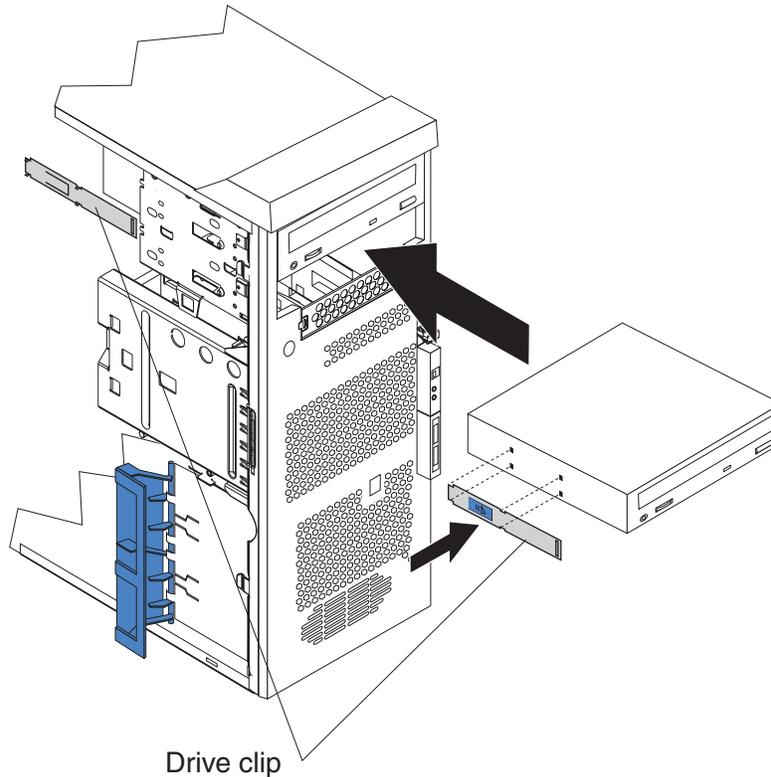

Figure 17. Drive clips on removable-media drives
13. Remove the clip from the side of the drive cage of bays 1 and 2 by sliding the clip to the left; then, snap the clip into the screw holes on the side of the drive or conversion kit (with the blue side of the clip facing outward) (see Figure 17).
- b. If the drive is secured with a tool-less clip (see Figure 17 on page 92), remove the clip and set it aside to install on the new drive.